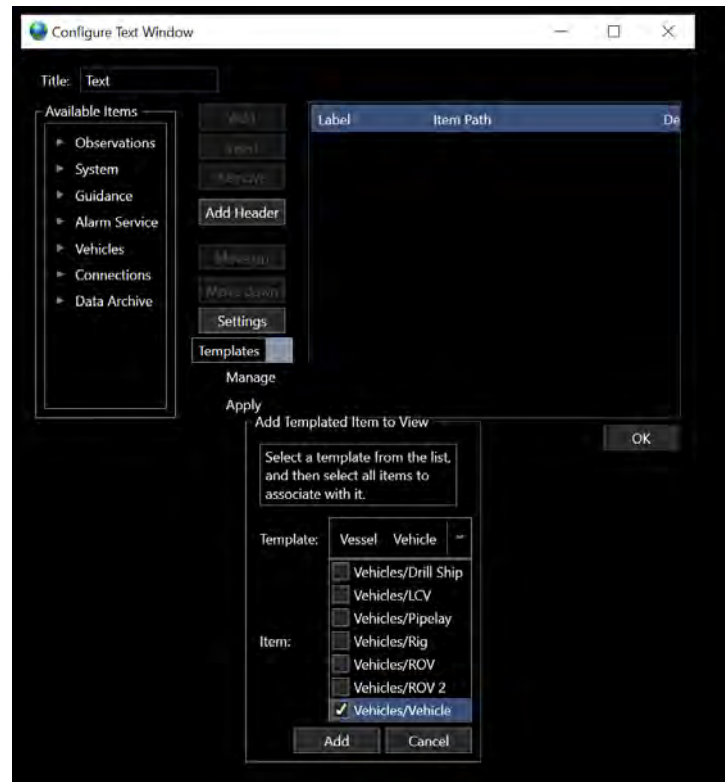

FIGURE 8-17 APPLY TEXT TEMPLATE DIALOG
1. From the text window that the template is to be applied to, click the **Templates**  drop-down and click on Apply to expand the dialog to display a Add a Templated Item to View dialog. See Figure 8-17